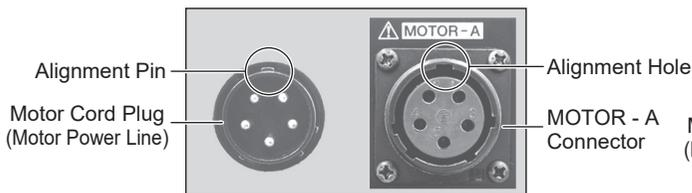
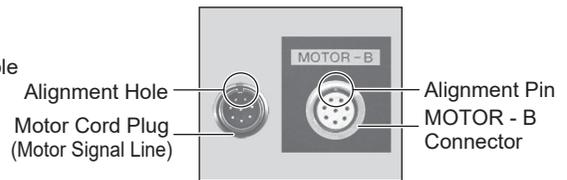

Fig. 17
Fig. 18
- (1) Ensure the Alignment Pin of the Motor Cord Plug (Power Line) is located upward (12 o'clock).
- (2) Carefully insert the Alignment Pin of Motor Cord Plug (Power Line) into the Alignment Hole (MOTOR - A Connector) of the rear of the CONTROLLER and push straight. Tighten the Fixing Ring of the Motor Cord Plug (Power Line). (Fig. 17, 19)
- (3) Ensure the Alignment Pin of the Motor Cord Plug (Signal line) is located upward (12 o'clock).
- (4) Carefully insert the Alignment Hole of Motor Cord Plug (Signal line) into the Alignment Pin (MOTOR - B Connector) of the rear of the CONTROLLER and push straight. Tighten the Fixing Ring of the Motor Cord Plug (Signal line). (Fig. 18, 19)